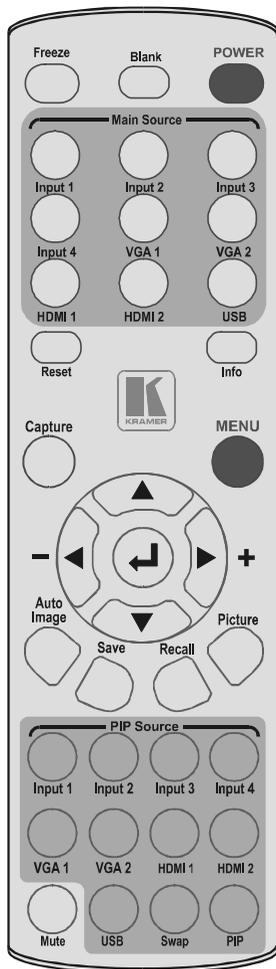

Figure 7: Infra-Red Remote Control Transmitter
- Pressing the PIP key on the infra-red remote control transmitter (see section 7.4, Figure 7)
To toggle back and forth between the PIP source and the main display, as Figure 6 illustrates, press the Swap key on the infra-red remote control transmitter (see Figure 7).
Figure 7 and Table 4 define the infra-red Remote Control Transmitter:
- Press the MENU front panel OSD button or the MENU key on the infra-red remote control transmitter (see Figure 7) to display the main MENU screen¹, which displays eight interactive icons (see Figure 8)